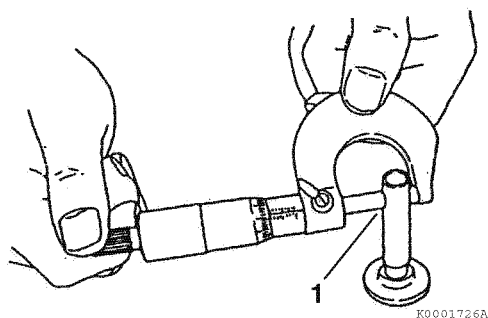

Figure 6-74
2. Measure the outside diameter of the tappet stem (**Figure 6-74, (1)**). See *Tappet* on page 6-14 for the service limit.